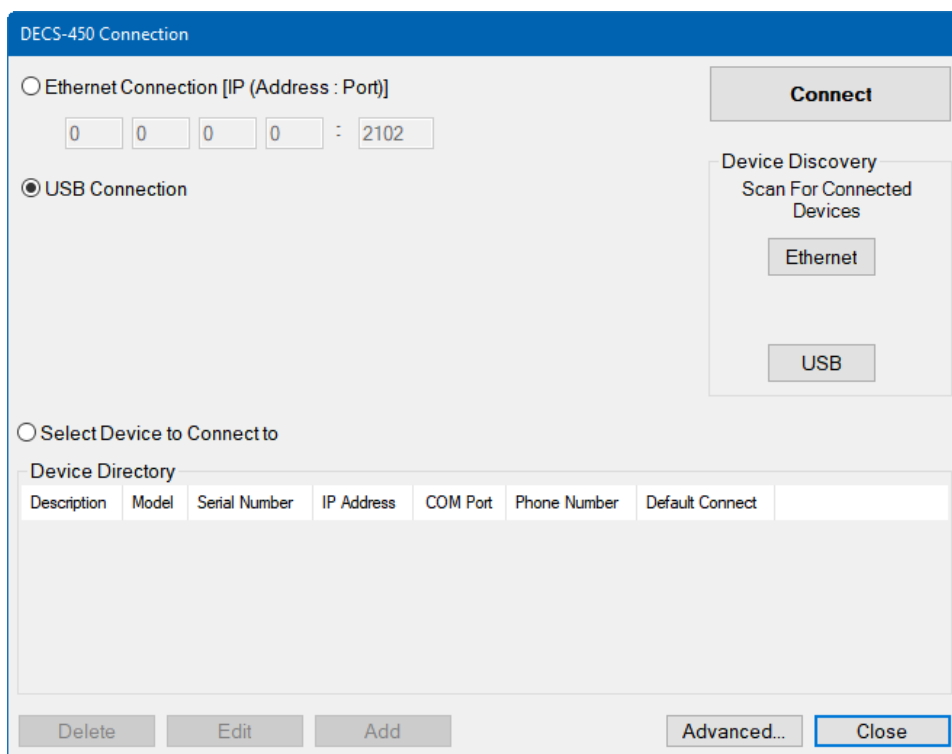

Figure 20-6. DECS-450 Connection Window
2. In BESTCOMSPlus, click *Communication*, *New Connection*, *DECS-450*, or click the *Connection* button on the lower menu bar. The DECS-450 Connection window appears. (Figure 20-6)